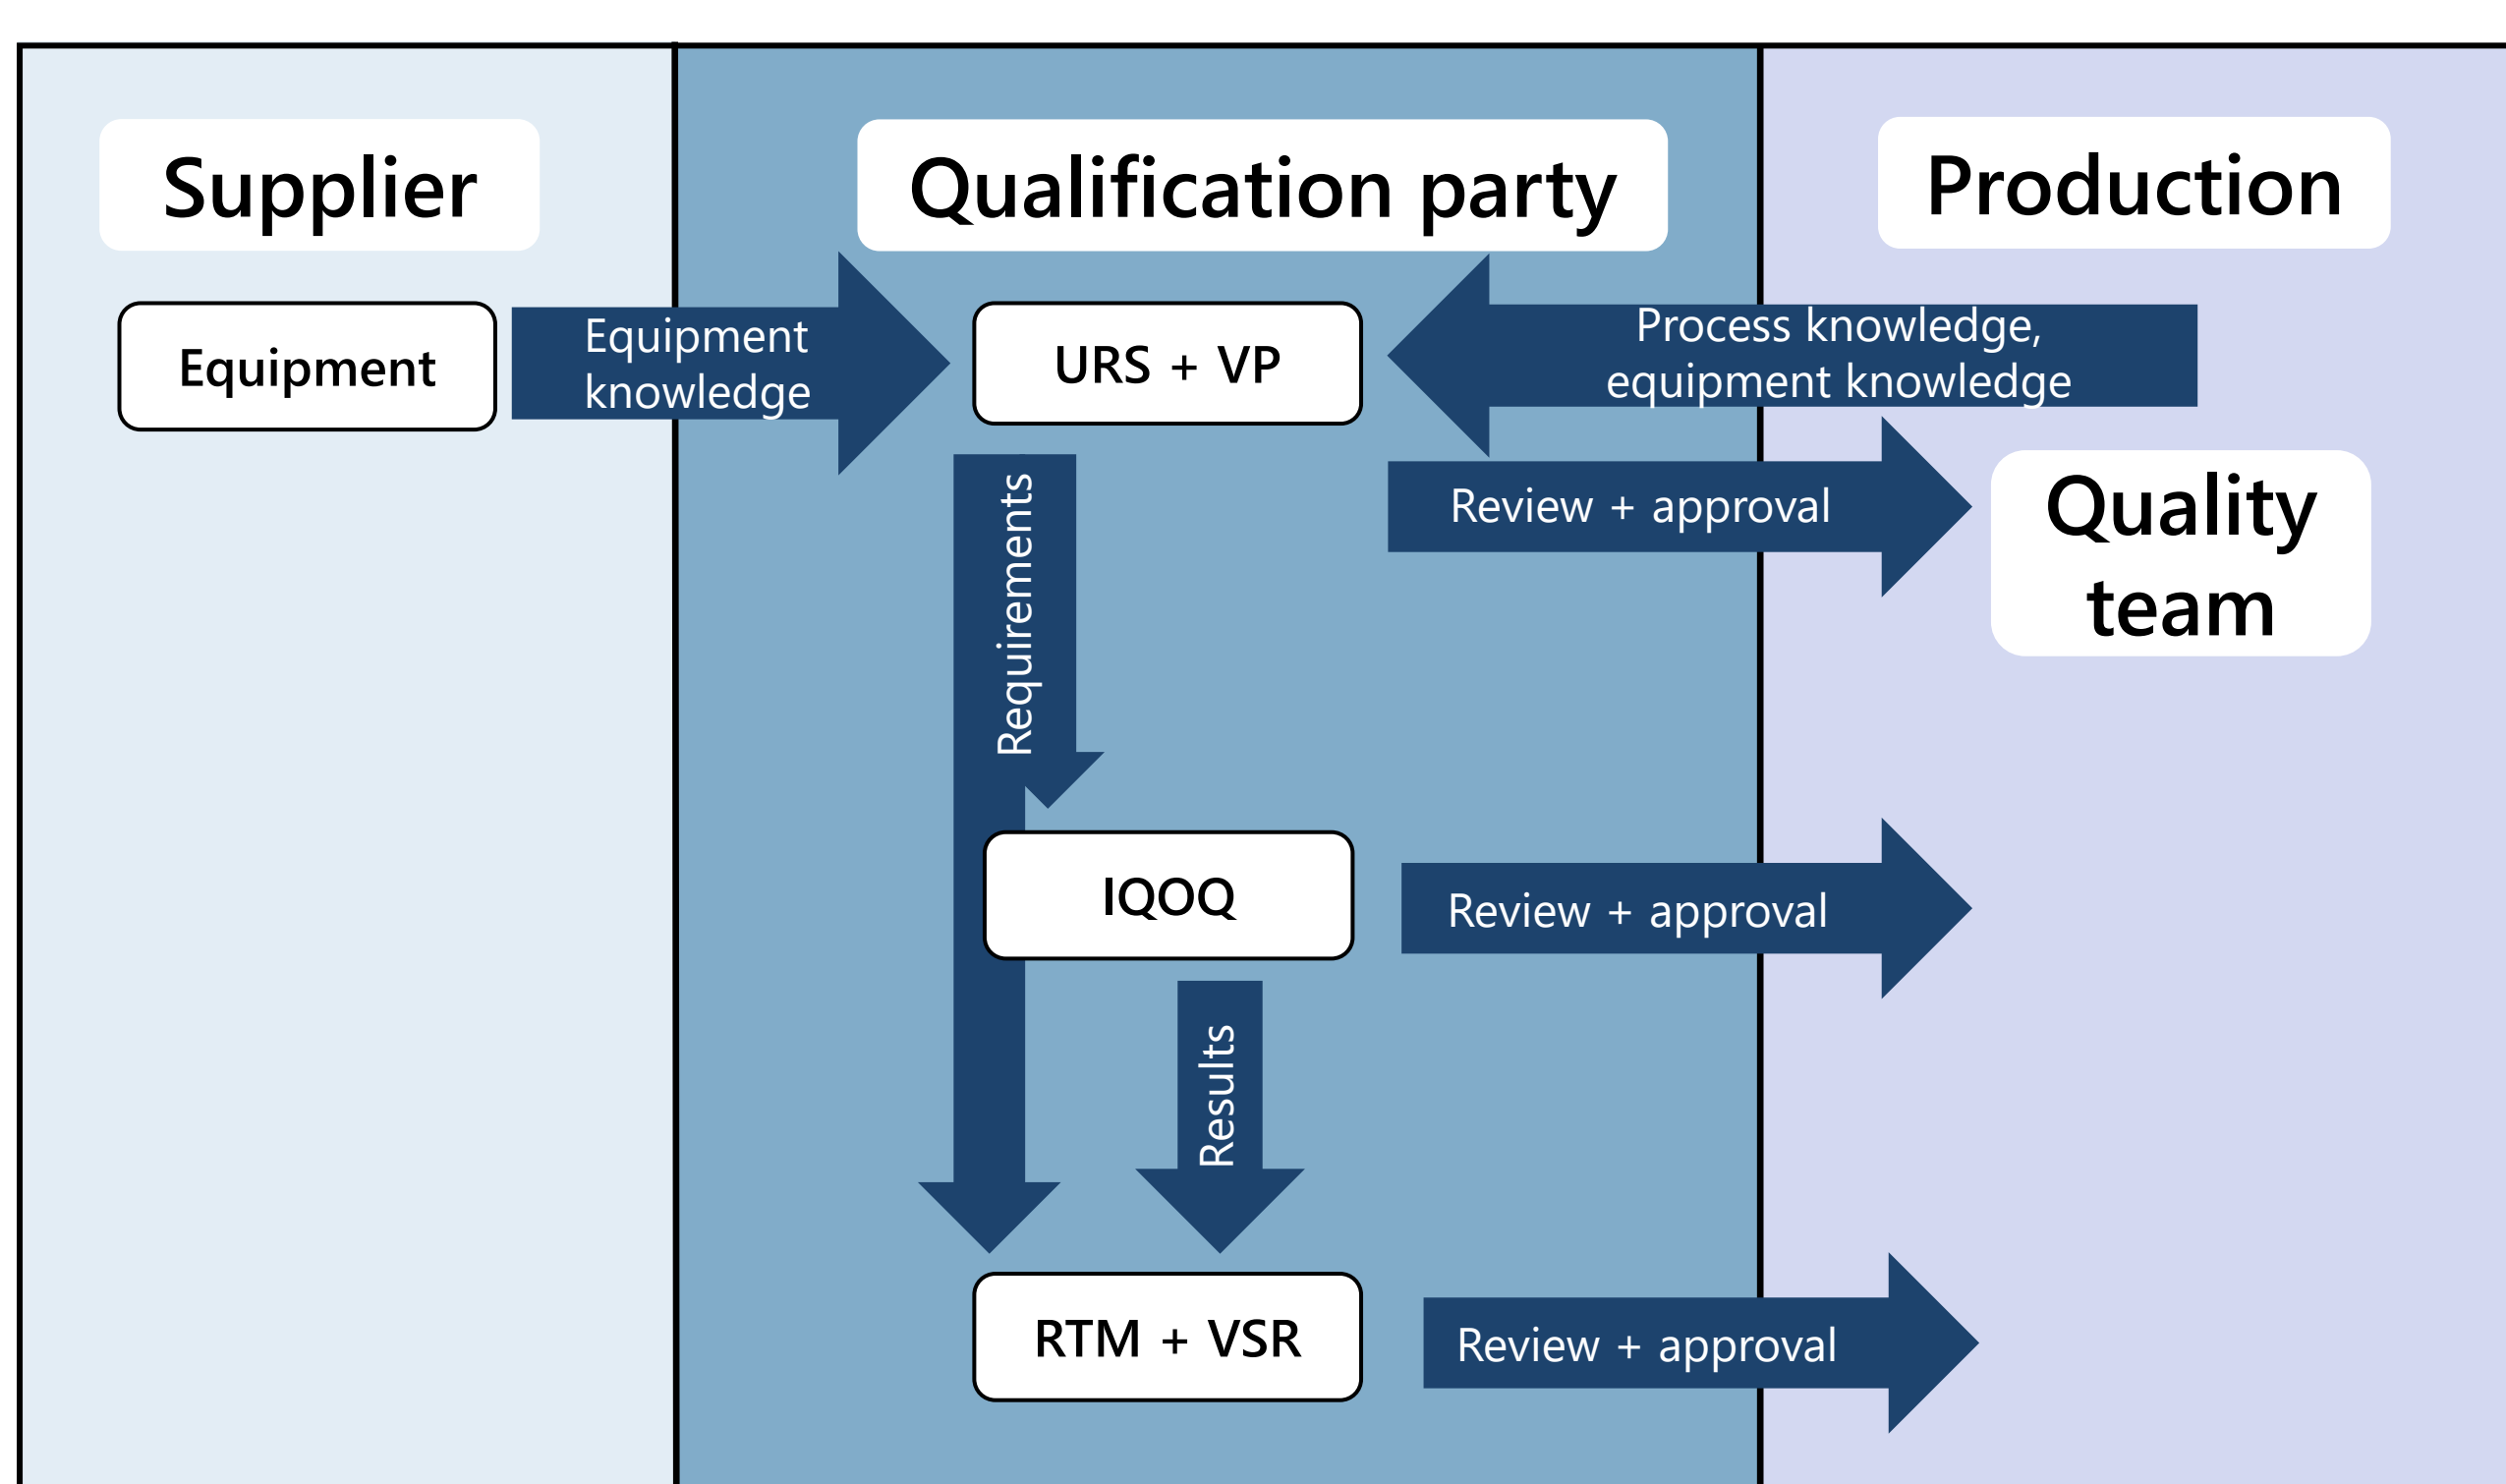

Figure 1 Air samplers' qualification workflow flow chart.
- Simpler process (see Figures 1 and 2)
- More complex process (see Figures 1 and 2) and therefore time consuming